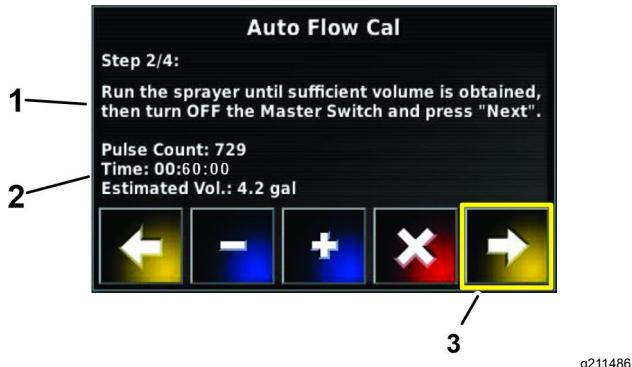

Figure 171
5. On the control console in step 2 of 4 in the auto flow calibration wizard, when the time counter reaches 60-seconds (Figure 171)—set the
7. In step 2 of 4 in the auto flow calibration wizard, press the next icon (Figure 171).